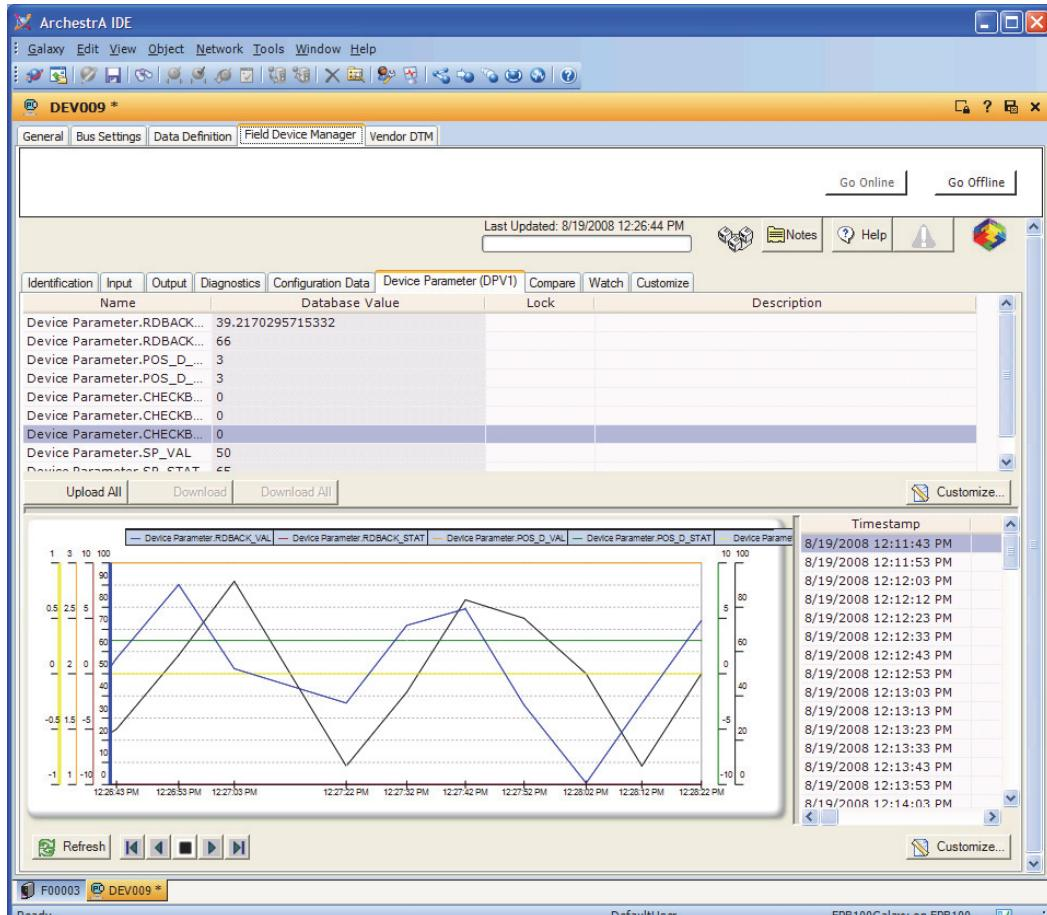

Figure 10. The Device Parameter (DPV1) Tab Enables Downloads to DPV1 Devices and Trend Displays of Up to Eight Device Parameters
- Device Parameter (DPV1) tab displays selected device parameters in a grid format and a trend display (Figure 10). The tab enables upload and download of parameters that are defined as writable.